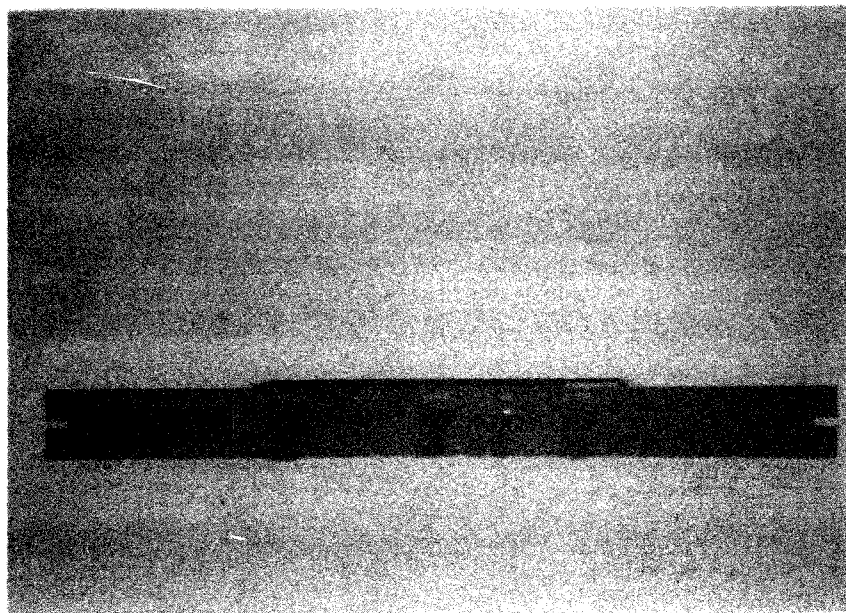

Figure 1 - Front View, MX-2840/URR
- a. This Technical Manual contains instructions for the installation, operation, maintenance, and repair of the MX-2840/URR Audio Frequency Detector. The equipment is shown in Figure 1 and 2.
2101. CONTROLS. -The following controls are provided, See Figure 1: